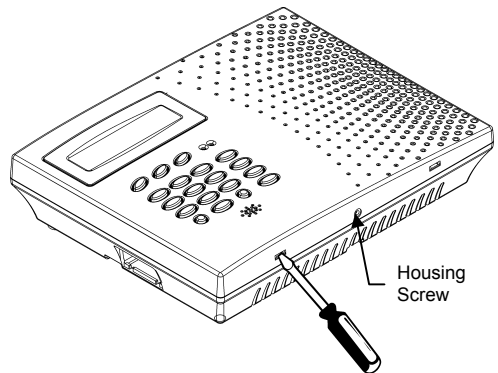

Figure 2.4: Opening the Housing
2. Using a screwdriver carefully press the release tabs as shown in Figure 2.4.